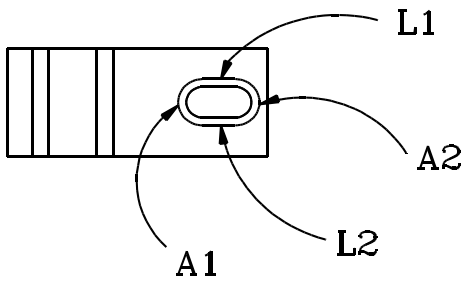

Figure 11
37. Click on A1, A2, L1, and L2 (the .375R arcs and the lines connecting them). (See Figure 11.)